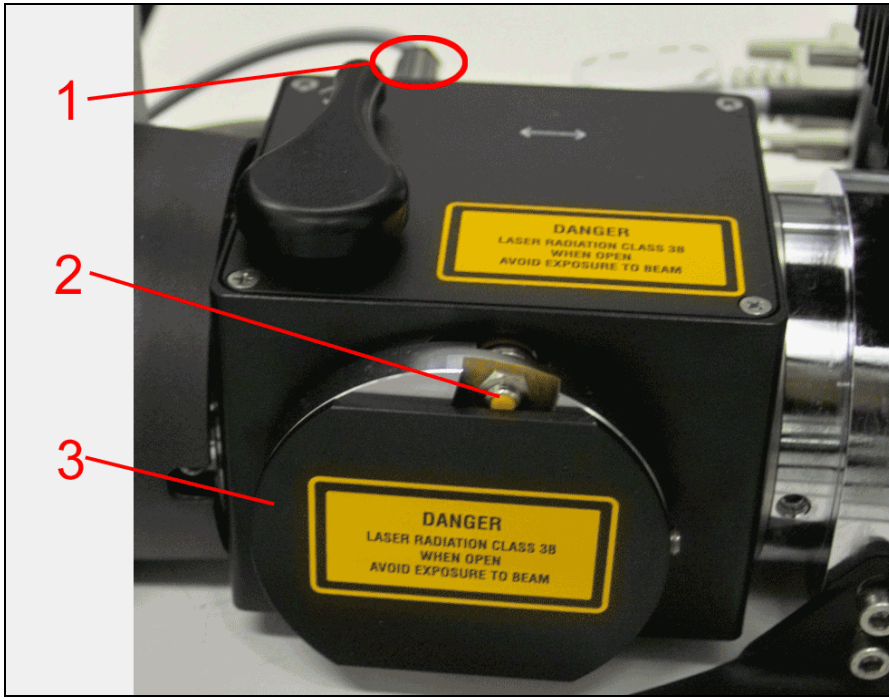

Figure 38: Mirror housing on upright microscope
- The interlock jack on the mirror housing (see Figure 38, item 1) must be connected to the scan head at all times.
- The unused output on the mirror housing must be covered with the cover provided (see Figure 38, item 3).
When installing the cover (Figure 38, item 3), ensure that the button (Figure 38, item 2) is pressed by the cover.